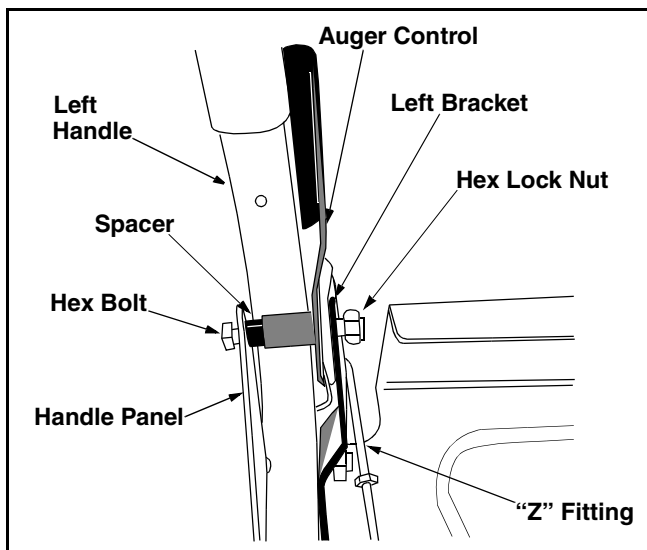

Figure 4
- Secure with hex bolt, spacer, and hex lock nut. Do not overtighten this bolt as it will prevent the control from automatically returning to their upright position. See Figure 4.